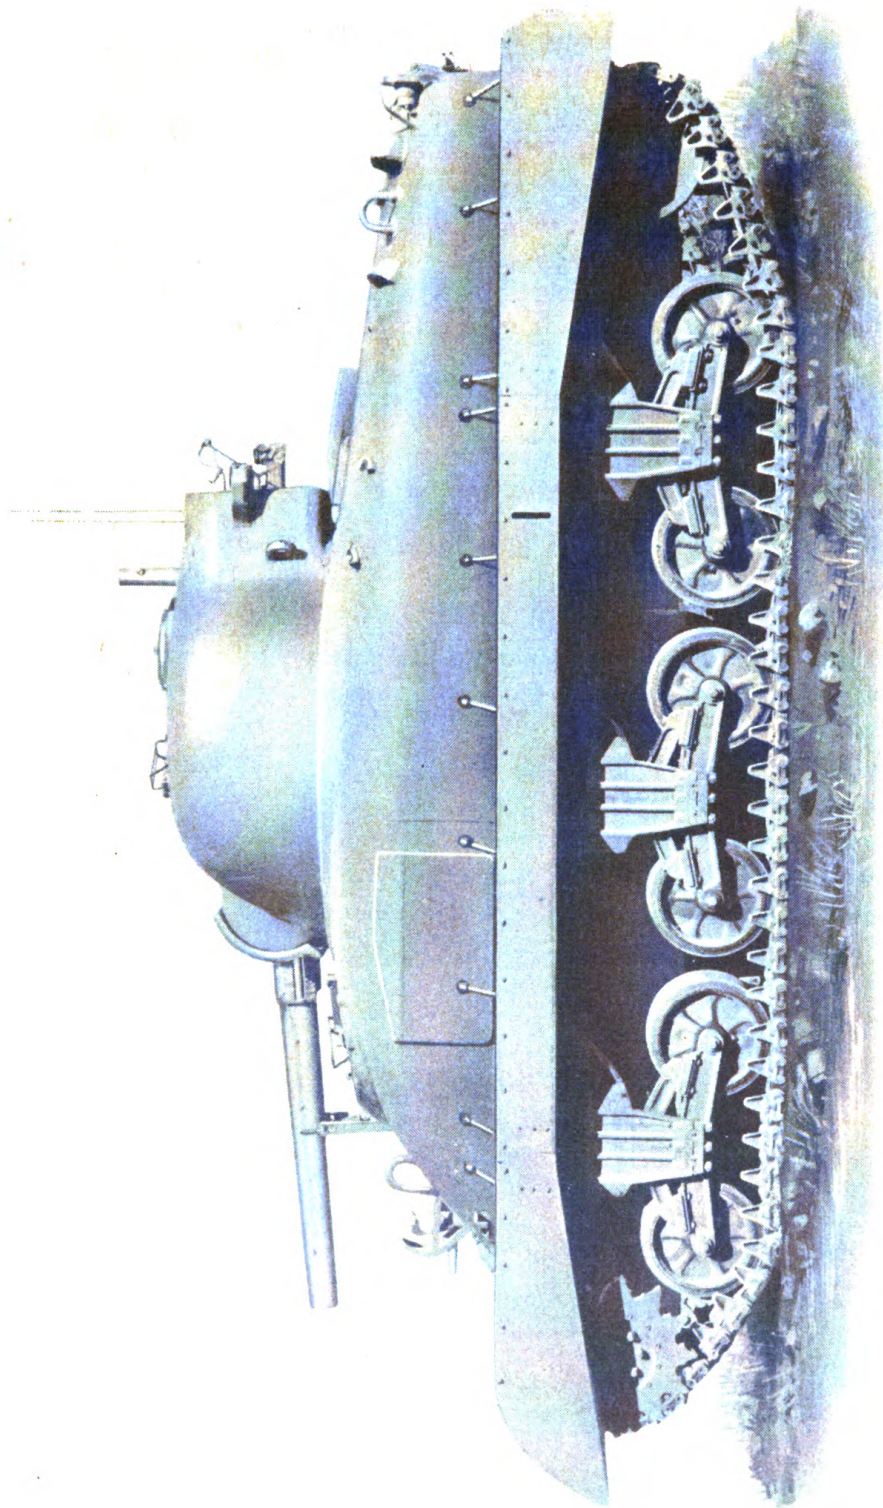

Figure 1—Mechanized Flame Thrower E12-7R1 installed in medium tank M4A1—left side view.
a. These instructions are published for the information and guidance of the personnel to whom this equipment is assigned. They contain information on the operation and maintenance of the equipment as well as descriptions of the major units and their functions in relation to the other components of the equipment. They apply only to the Flame Thrower, Mechanized, E12-7R1 (figs. 1, 2 and 3), installed in medium tank M4A1 or M4A3 and are arranged in five parts: Part One—introduction; Part Two—operating instructions; Part Three—maintenance instructions; Part Four—auxiliary equipment; Part Five—repair instructions; and Appendix.